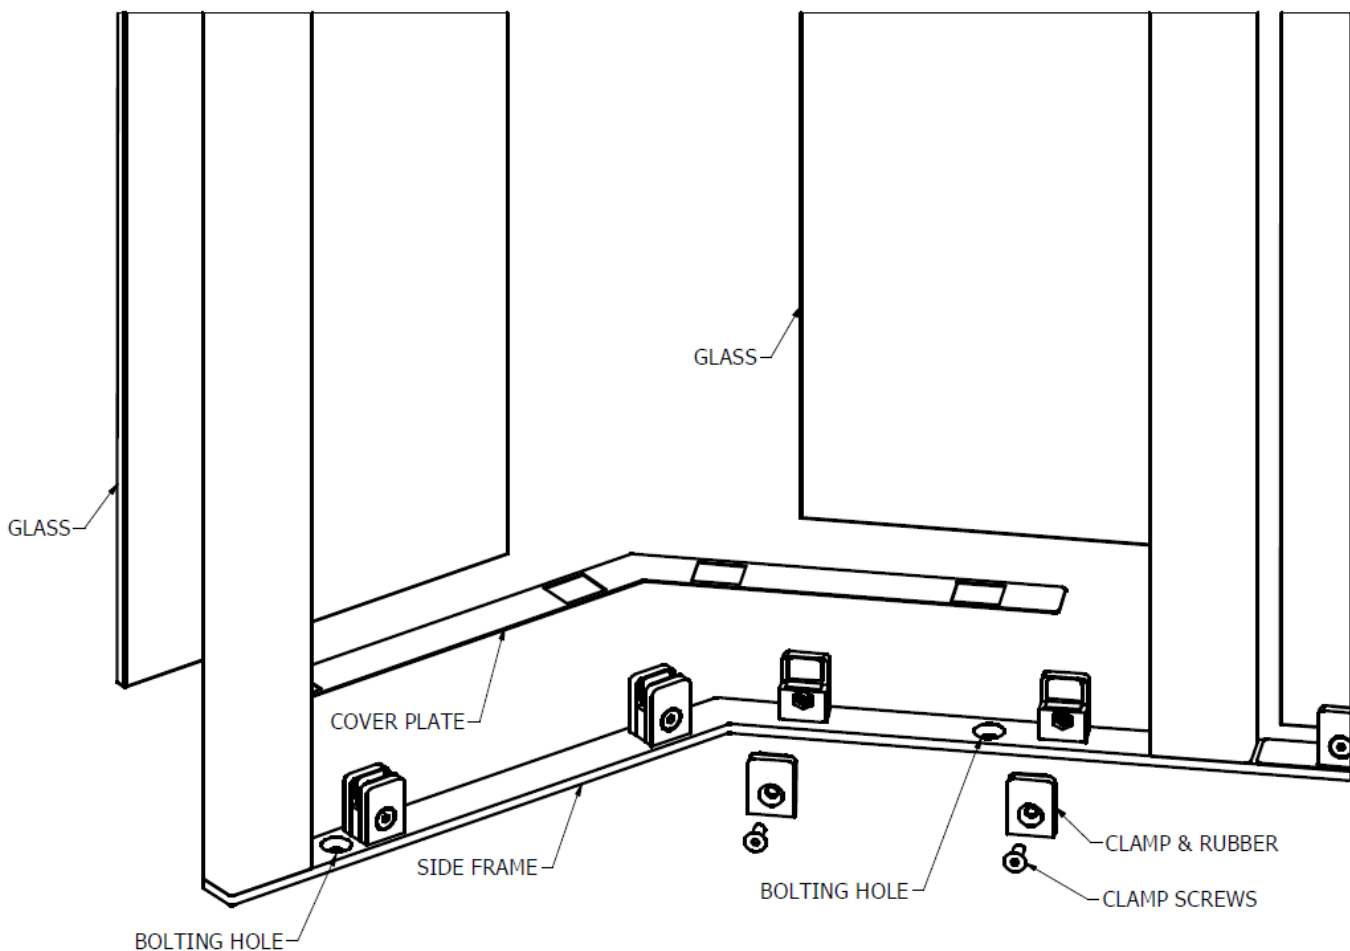

Figure 14: Accessing the holding down bolt holes
8.2.3. To access the holes if the side glass is already installed, remove the glass by loosening the screws holding the clamps from inside the Turnstile. The clamps are located at the top and bottom of the glass. Lift off the cover plate hiding the holding down bolts (See **Figure 14: Accessing the holding down bolt holes**. Fit the anchor bolts into the bolting holes and tighten, before replacing the cover plate, glass and clamps.